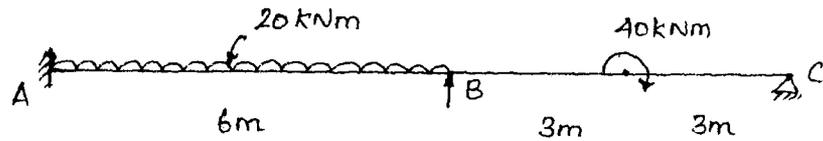

Fig. 9
15. (a) A two span continuous beam ABC is fixed at A and simply supported over the supports B and C. $AB = 6\text{ m}$ and $BC = 6\text{ m}$. The moment of inertia is constant throughout. It is loaded as shown in Fig. 9. Analyse the beam by matrix stiffness method.